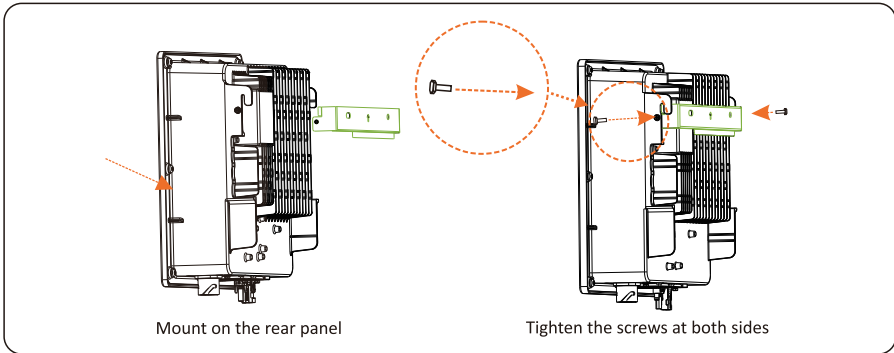

Figure 4.14 Securing the inverter
Step 2 Mount the inverter on the rear panel and keep them aligned with each other, as shown in Figure 4.14.
Step 3 Tighten the two hexagon screws at the both sides of the inverter to a torque of 1.2N.m and 3N·m respectively. Screw specs for K23.6K and 4K-6K are M4 and M6 respectively, as shown in Figure 4.14.